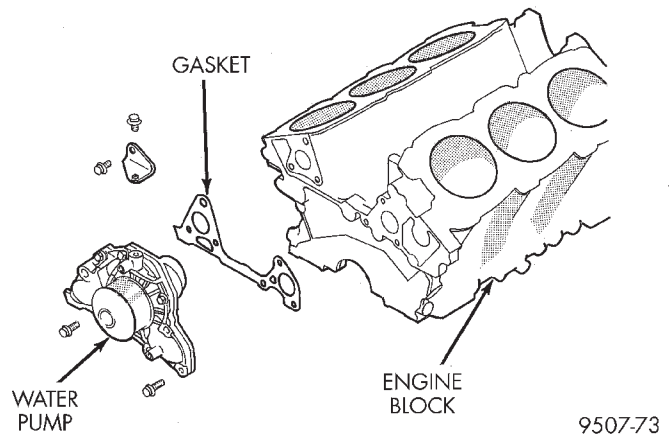
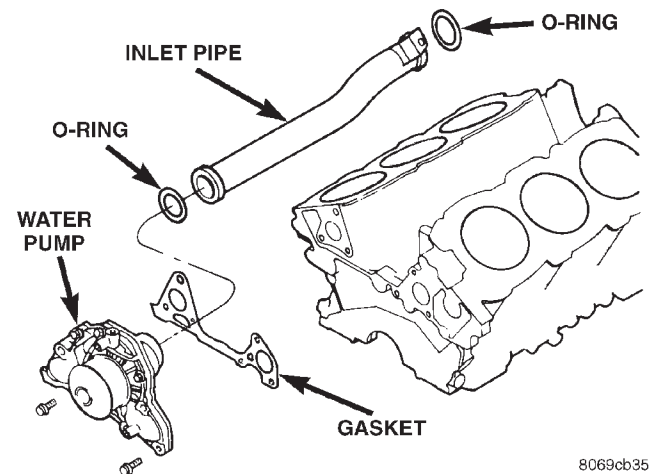

Fig. 32 Water Pump—2.5L Engine
Fig. 33 Water Pump Inlet Tube
(1) Drain cooling system. Refer to Cooling System Draining in this section.
(2) Remove right engine mount and bracket. Refer to Group 9, Engine for procedure.
(3) Remove timing belt. Refer to Group 9, Engine for procedure.
(4) Remove water pump mounting bolts.
(5) Separate pump from water inlet pipe (Fig. 33) and remove pump (Fig. 32).